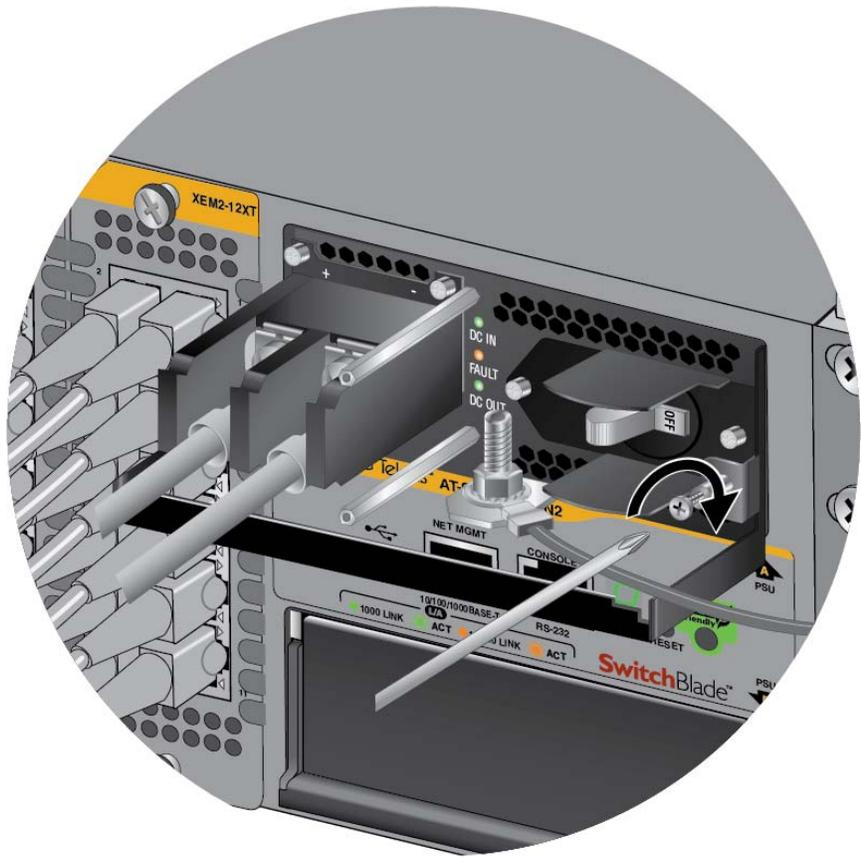

Figure 91. Connecting the Negative (-) Power Wire with a Right Angle Terminal
7. With a #3 Phillips-head screwdriver, connect the negative (-) power lead wire to the negative terminal on the power supply, with the remaining terminal screw removed in step 5. The negative terminal is on the right. Refer to Figure 91 on page 143.